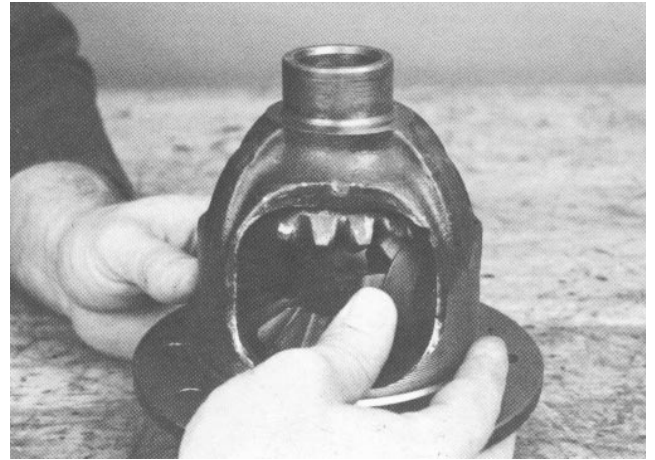

Figure 26
8. To remove the side gears and pinion mate gears, rotate the side gears. This will allow the pinion mate gears to turn to the opening of the case (Fig. 26). Remove the pinion mate gears and the spherical washers behind the gears.